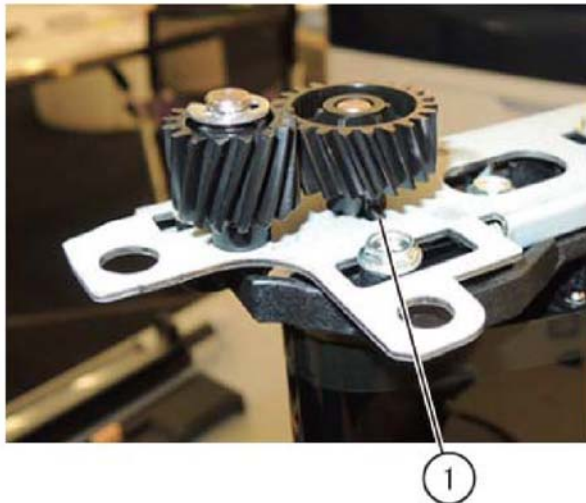

Figure 15 Tension roll tab alignment
- When installing the rear holder and the tension roll, align the tab of the bearing to the cut-out of the bearing installation hole, Figure 15.